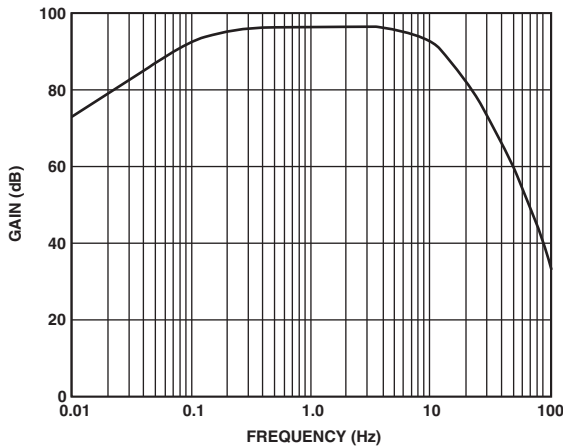

Figure 7. 0.1 Hz to 10 Hz Peak-to-Peak Voltage Noise Test Circuit Frequency Response
4. The test time to measure noise of 0.1 Hz to 10 Hz should not exceed 10 seconds. As shown in the noise-tester frequency response curve of Figure 7, the 0.1 Hz corner is defined by only one pole. The test time of 10 seconds acts as an additional pole to eliminate noise contribution from the frequency band below 0.1 Hz.